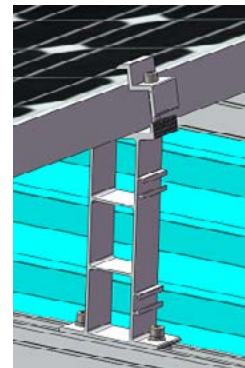

Figure 23
2) Fix the clamp on the Rear Leg shown in Figure 23 and fasten the clamps of Front and Rear legs till the PV Modules are properly installed in Figure 24.